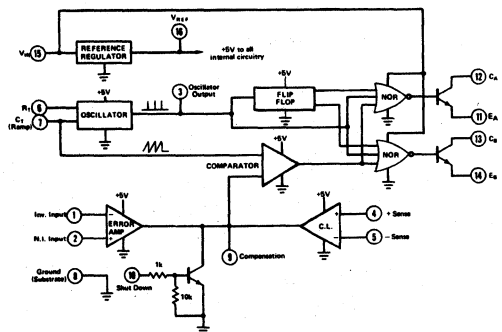
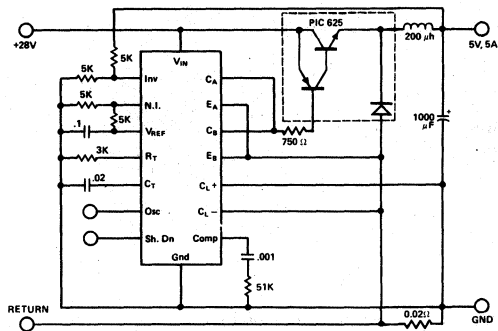

Figure 1. SG1524 Block Diagram
Figure 2. SG1524 Single-Ended Switching Regulator
From the block diagram shown in Figure 1, it can be seen that the SG1524 contains the elements necessary to implement either single-ended switching regulators or DC to DC converters of several different configurations. This device includes a voltage reference, error amplifier, constant frequency oscillator, pulse width modulator, pulse steering logic, dual alternating output switches, and current limiting and shutdown circuitry. Since many of the different types of applications for this IC have been discussed earlier(2) it should suffice to review only two of the more common usages as shown in Figures 2 and 3.
The single-ended regulator of Figure 2 is unique because of its simplicity. This circuit combines an SG1524 with a Unitrode PIC-625 to build a 5 volt, 5 amp regulator with all the semi-